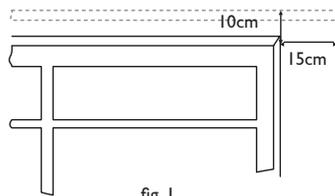

fig. 1
2. When you have decided the location of the rail mark out the position of the fixing line, 10cm above the window recess and allow 15 cm either side for the curtains to stack back as shown in Fig 1. **The rail must be fitted at least 1.5m from the floor.**